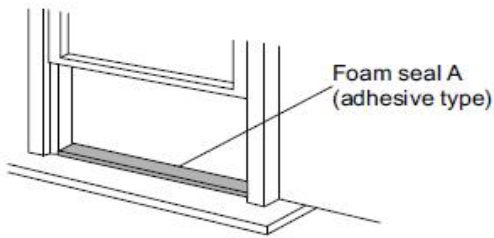

Fig.10
2. Cut the foam seal (adhesive type) to the proper length and attach it to the bottom of the window. Fig.10.